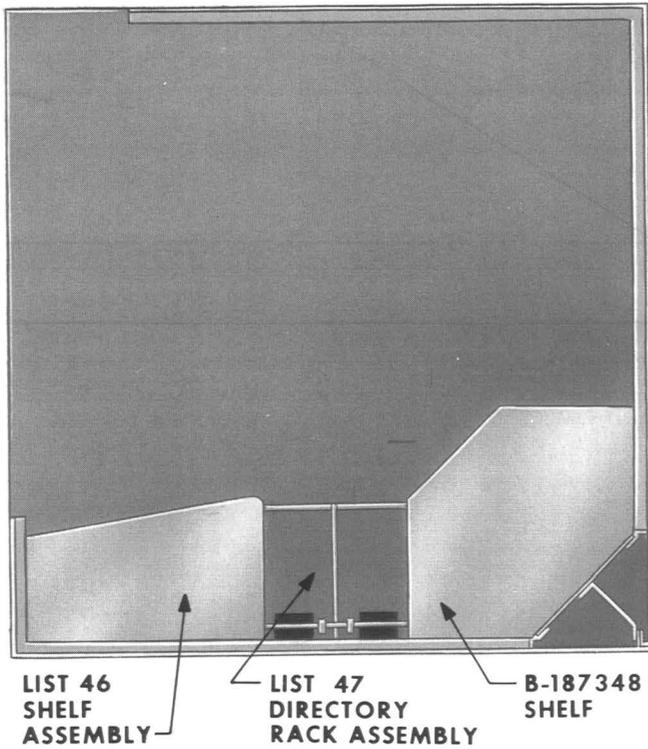

Fig. 11 - Side-Wall Arrangement
7.02 Directory facilities in combination with a writing shelf may also be provided with the booth. These combinations are illustrated in Fig. 11, 12, 13, and 14.
**7.04** Earlier KS-14611 booths are provided with a side wall arrangement similar to Fig. 11 except that a different shelf was used in place of a B-187348 shelf. The rear intermediate rails are not provided with mounting holes for a rear shelf arrangement. To provide a combination side and rear wall arrangement in these booths, refer to Fig. 15 and proceed as follows: